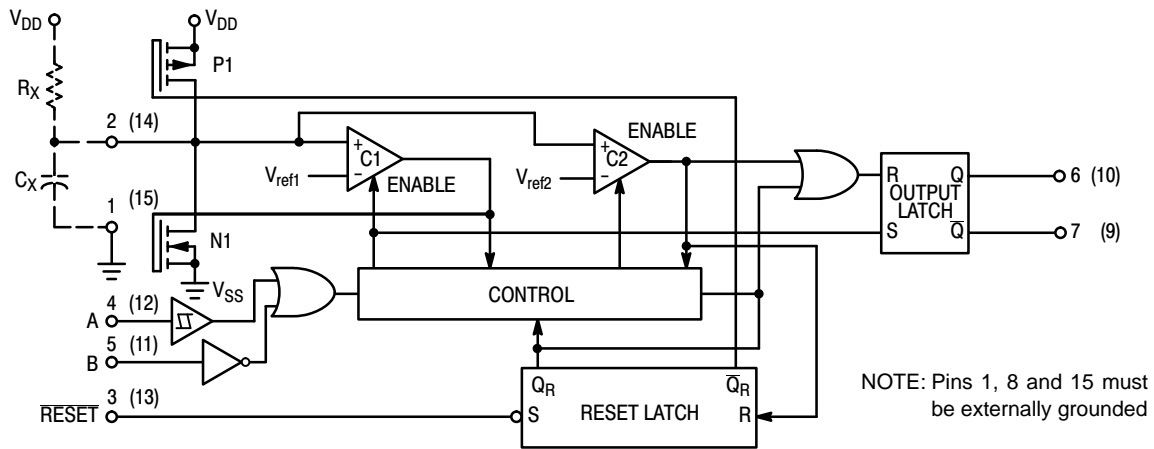

Figure 1. Logic Diagram
The block diagram of the MC14538B is shown in Figure 1, with circuit operation following.
As shown in Figure 1 and 10, before an input trigger occurs, the monostable is in the quiescent state with the Q output low, and the timing capacitor  $C_X$  completely charged to  $V_{DD}$ . When the trigger input A goes from  $V_{SS}$  to  $V_{DD}$  (while inputs B and  $\overline{\text{Reset}}$  are held to  $V_{DD}$ ) a valid trigger is recognized, which turns on comparator C1 and N-channel transistor N1 ①. At the same time the output latch is set. With transistor N1 on, the capacitor  $C_X$  rapidly discharges toward  $V_{SS}$  until  $V_{ref1}$  is reached. At this point the output of comparator C1 changes state and transistor N1 turns off. Comparator C1 then turns off while at the same time comparator C2 turns on. With transistor N1 off, the capacitor  $C_X$  begins to charge through the timing resistor,  $R_X$ , toward  $V_{DD}$ . When the voltage across  $C_X$  equals  $V_{ref2}$ , comparator C2 changes state, causing the output latch to reset (Q goes low) while at the same time disabling comparator C2 ②. This ends at the timing cycle with the monostable in the quiescent state, waiting for the next trigger.